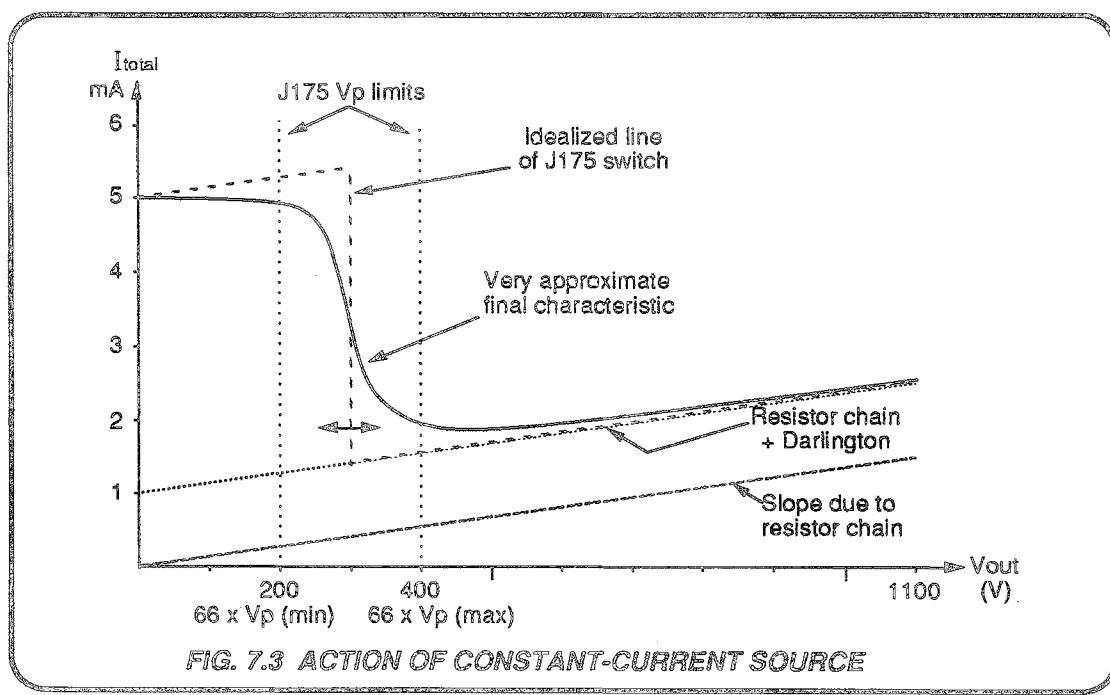

FIG. 7.3 ACTION OF CONSTANT-CURRENT SOURCE
- At higher voltages, D15-D17 limit Q11 base voltage to +2.4V, limiting the series current in R11, with Q13 pinched off. At lower voltages Q13 conducts, shunting R11 with 170-180Ω (R10 plus Q13 'On' resistance which falls to approx 125Ω), and increasing the discharge current. The approximate shape of the overall characteristic is shown in Fig. 7.3.